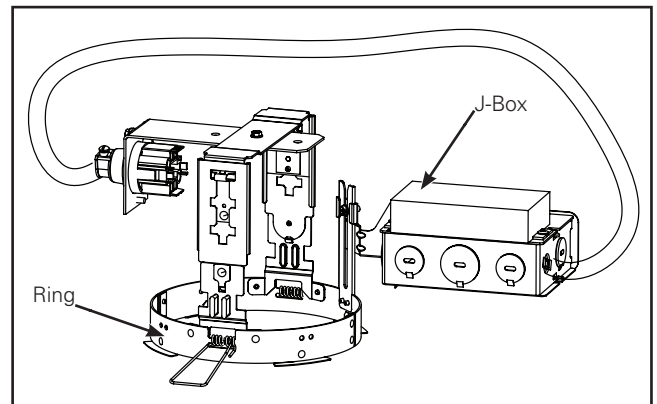

Figure 2.
1. Remove J-box arm from mount bar. (Figure 2.)